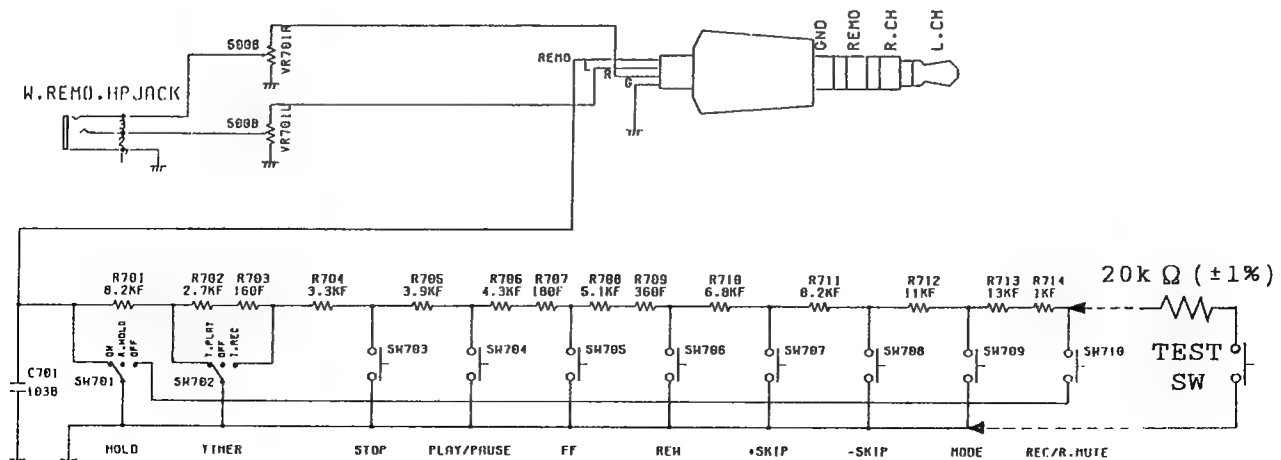

Fig. 11 Test-Remoto-Control circuit
1. Make the Test-Remoto-Control by adding a resistor (20K Ω \pm 1%) and a tact switch to remoto control circuit. (See Fig. 11).